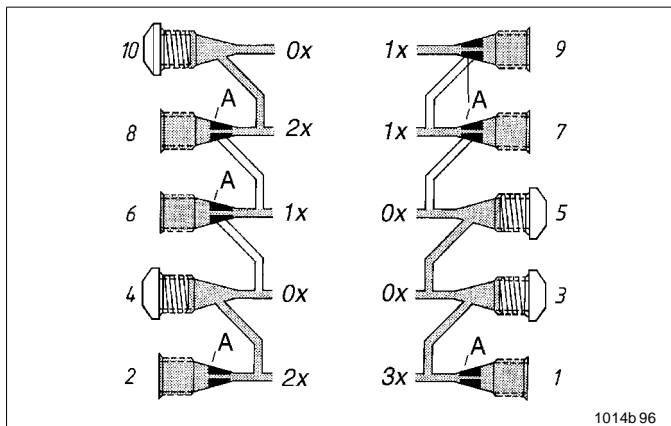

Fig. 29 Single, double and triple lubricant output
- As shown in fig. 29, outlet borehole 10 has been closed. The lubricant quantity supplied by this outlet flows out of the metering device via outlet 8.
- If a triple quantity is needed (at outlet 1), close the outlet borehole located above the discharge borehole. Refer to outlets 3 and 5 on fig. 29.